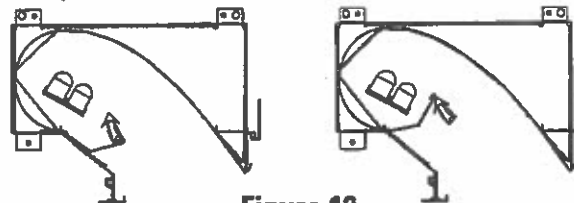

Figure 12
5. Push the lamp shield up and away from the wall until it snaps into place. (Fig. 12)